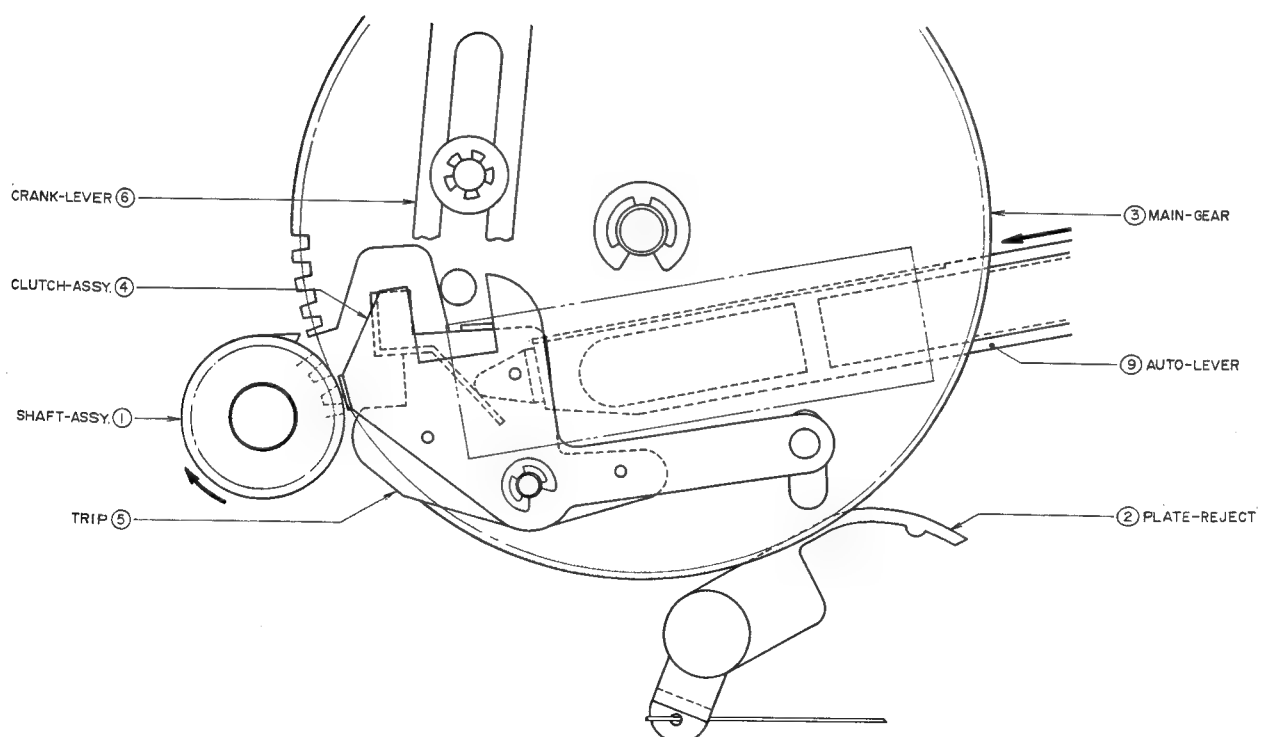
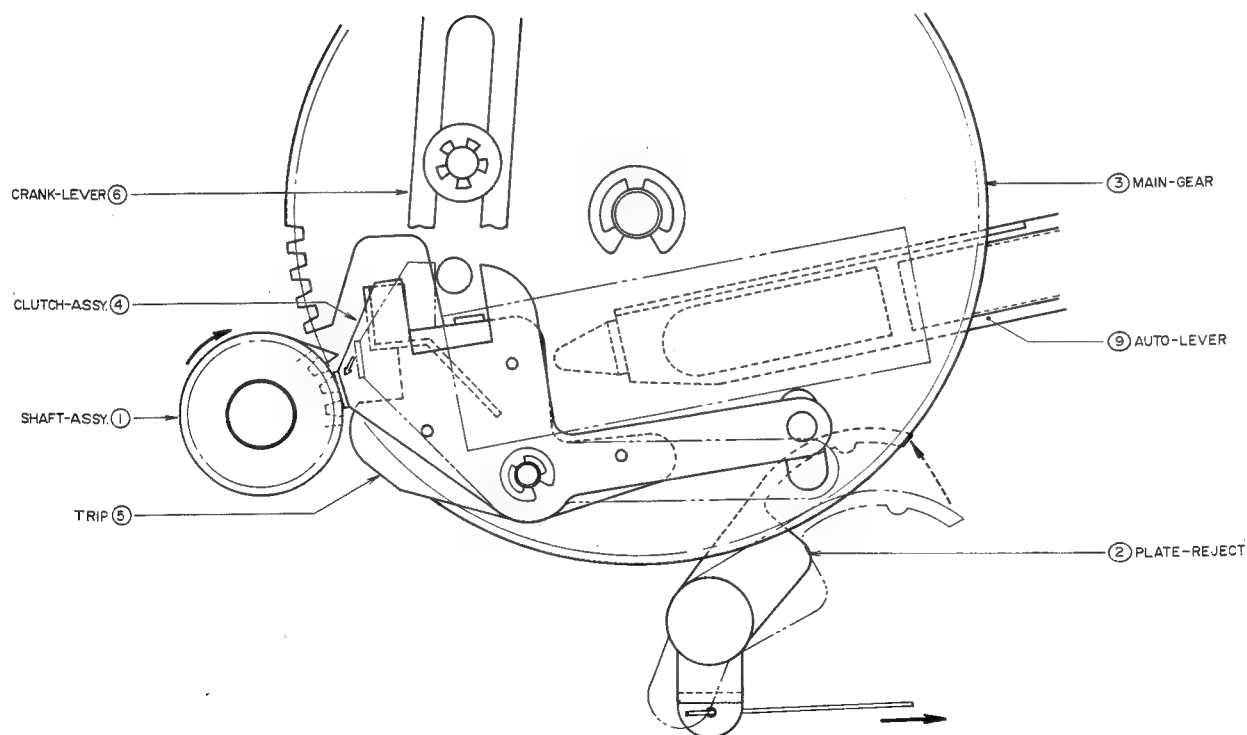

Fig. 5 PICK UP ARM STYLUS TIP IN VICINITY OF 126φ
Fig. 13 FORCE CUT
In due time the pick up stylus finishes sound groove tracing and about the time it enters the lead-out groove, the tip of AUTO-LEVER (9) begins to push the skirt part of TRIP (5) and the CLUTCH ASSY (4) which rides lightly on this part is pushed out toward the TABLE SHAFT ASSY (1) (shown in Fig. 5, when the pick up stylus is at a about 126 mm position from the turntable).
When listening to a record and you wish to stop in the middle of a performance, or when playing a record not according to specifications, and the stylus tip has advanced to the last groove, simply bring the cut lever forward. This moves PLATE REJECT 2 which pushes PLATE JOINT (13), then POLE REJECT (15) and ultimately CLUTCH ASSY (4) is pushed as shown in Fig. 13. ( $\leftarrow$  mark). Then return operation commences and the power source is turned OFF (Refer to Item 1 above and Fig. 5).